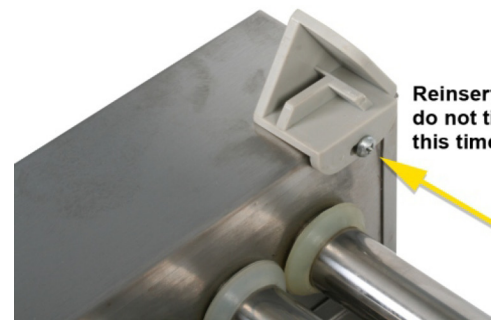

Figure 2
2. Place the back side glass mount (C) onto the machine and reinsert the screw. Do not tighten down the screw at this time because we may need to move it forward or back in a later step. See figure 2.